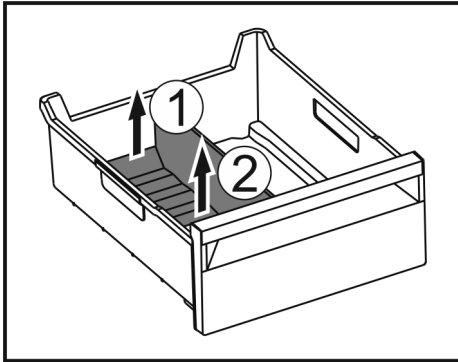

Fig. 143
- ▶ Lift the rear part of the ice compartment divider. Fig. 143 (1)
- ▶ Remove the ice compartment divider upwards. Fig. 143 (2)